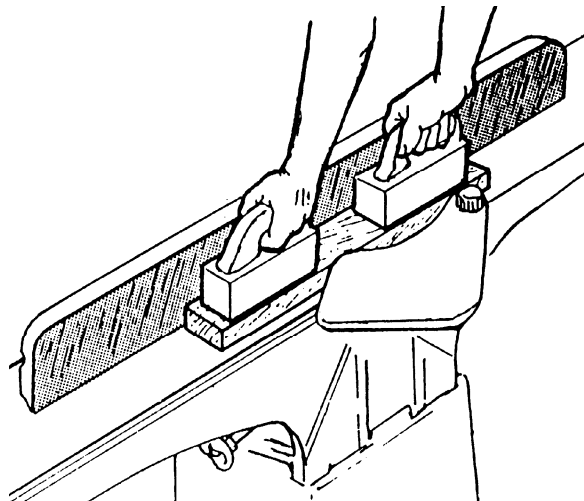

Figure 37
- ❑ On stock longer than 12 inches use two push blocks (Figure 37).